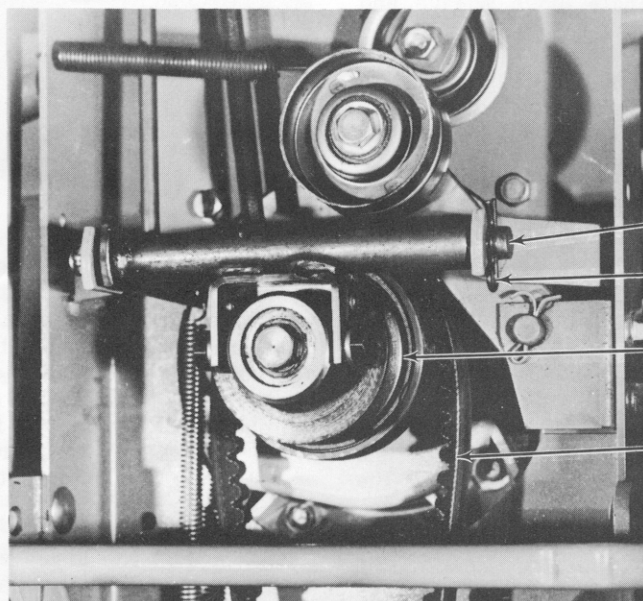

Figure 7
a. Remove the hairpin and pull the adapter pin securing the lower section of the power take off pulley. See figure 7.
a. Remove the hairpin and pull the support pin securing the lower section of the PTO clutch assembly. See figure 7.